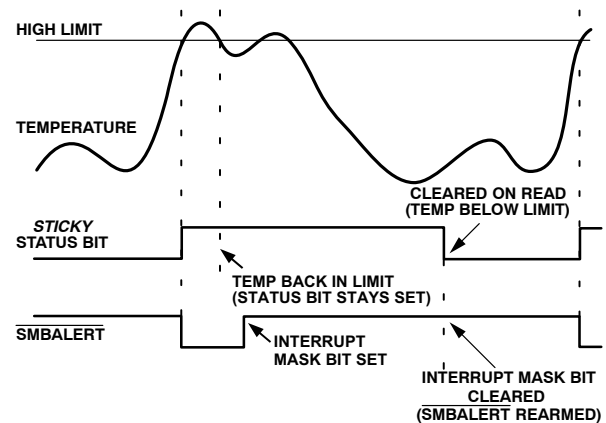

Figure 30. How Masking the Interrupt Source Affects $\overline{\text{SMBALERT}}$ Output
7. Periodically poll the status registers. If the interrupt status bit has cleared, reset the corresponding interrupt mask bit to 0. This causes the $\overline{\text{SMBALERT}}$ output and status bits to behave as shown in Figure 30.